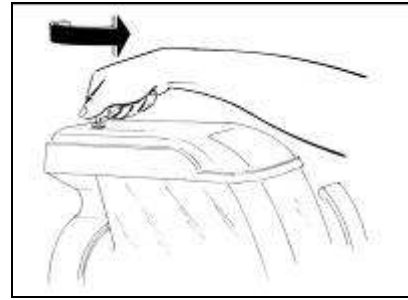
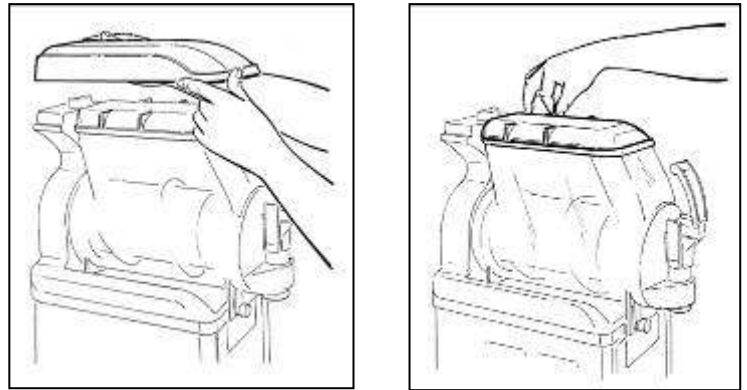

Fig. 1
Fig. 2
The machine has to be placed on a sturdy, horizontal surface making sure it is well ventilated by leaving a gap of 20 cm around it and do not install it near heat sources (fig.1); we recommend you to maintain a room temperature between 24 and 32°C.
- **A**fter unlocking the main cover with its key (fig.1), remove the main cover and the secondary one under it (fig.2).